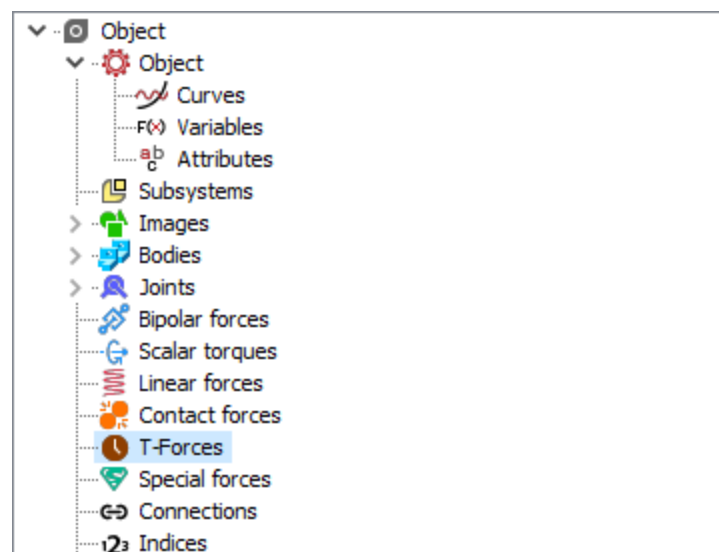

Figure 3.14. Adding new **T-Forces**
3. Add new **T-Forces** into the model, Figure 3.14.